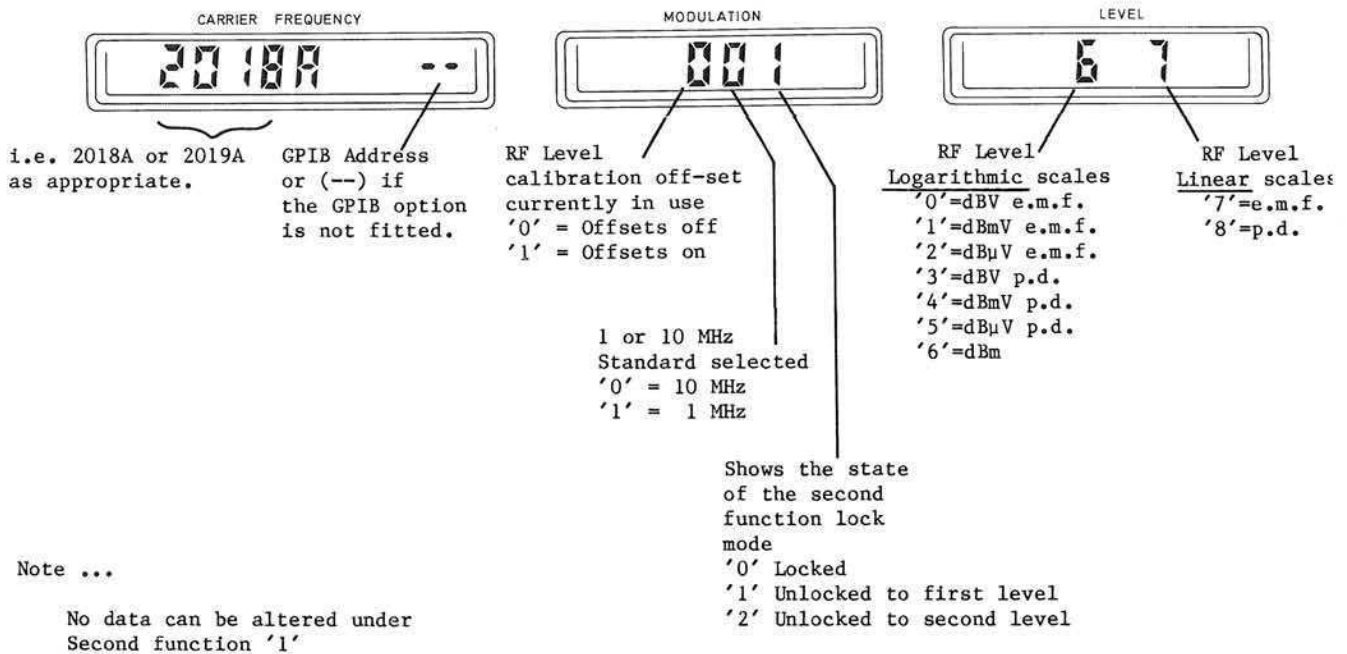

Fig. 4 2018A Second function '1' status mode
26. Entering Second function 1 will result in the instrument displaying status information as shown below in Fig. 4.